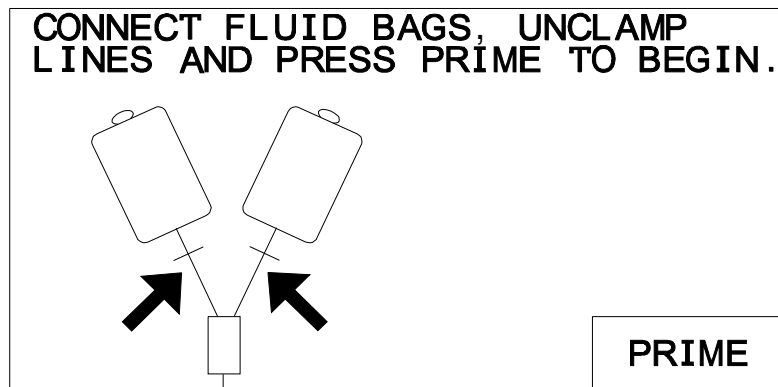
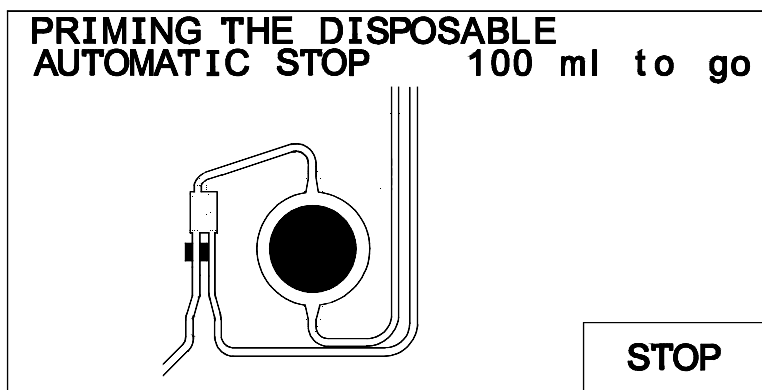

Figure 2. Prime screen 1
Figure 3. System priming
5. PRIME screen, Figure 2, will appear.
- c. Press NEXT to go to the PRIME screen, Figure 2.
- f. Press the PRIME key to initiate prime, Figure 2. The infuse line is closed off by the valve and fluid is sent through the disposable set at 500 ml/min. The prime volume countdown is displayed on the screen, Figure 3. One hundred milliliters of fluid is circulated to prime the system.